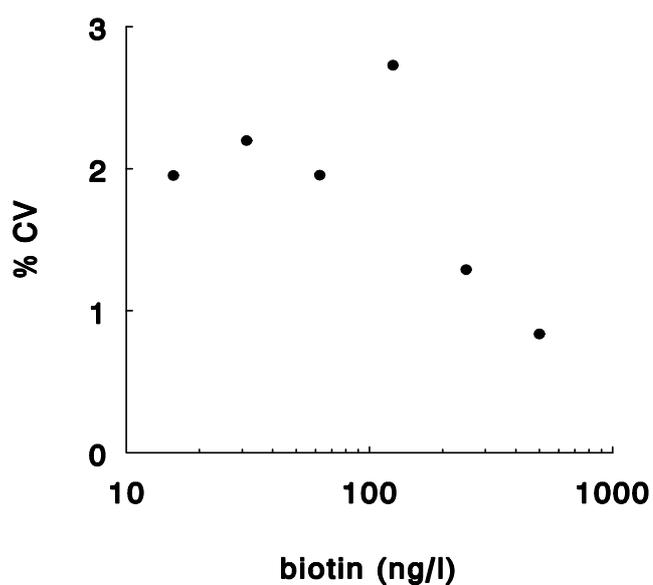

Figure 2
The precision profile was generated by preparing five replicates of each of the standards and calculating the standard variation and percent coefficient of variation (CV) at each concentration (figure 2). The average CV between the standards was 1.8 %.